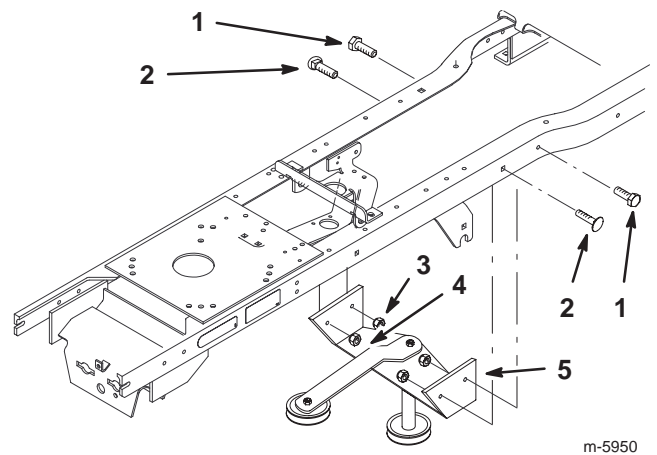

Figure 5
2. Install the jack shaft assembly inside the tractor frame with 2 bolts (1/4 x 1 in.), 2 carriage bolts (5/16 x 1 in.), 2 locknuts (1/4 in.), and 2 locknuts (5/16 in.) (Fig. 5).